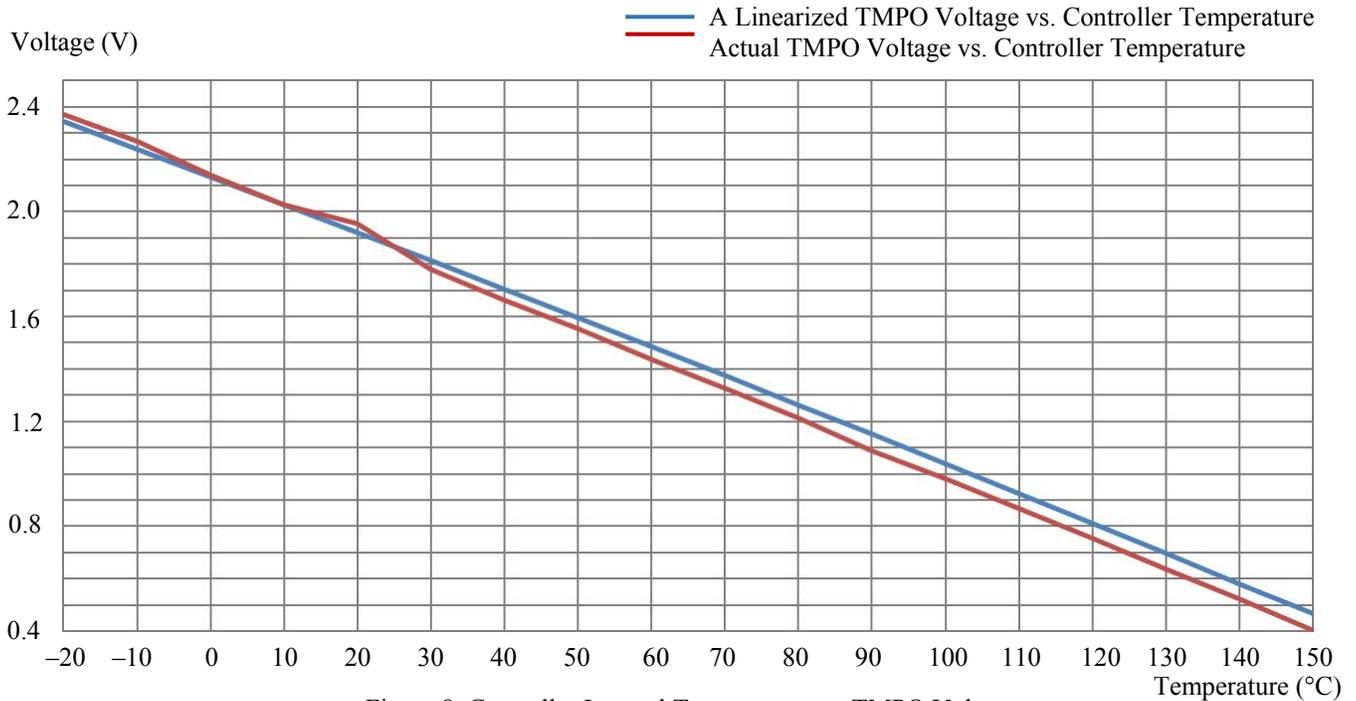

Figure 8. Controller Internal Temperature vs. TMPO Voltage
1.5V, at which the temperature error between the calculated data by using the formula (1) and the approximated data obtained by using the linear equation (2) is about 0.4°C, with the linear data being a little lower. The curves of the 2 sets of the data are plotted in Figure 8.